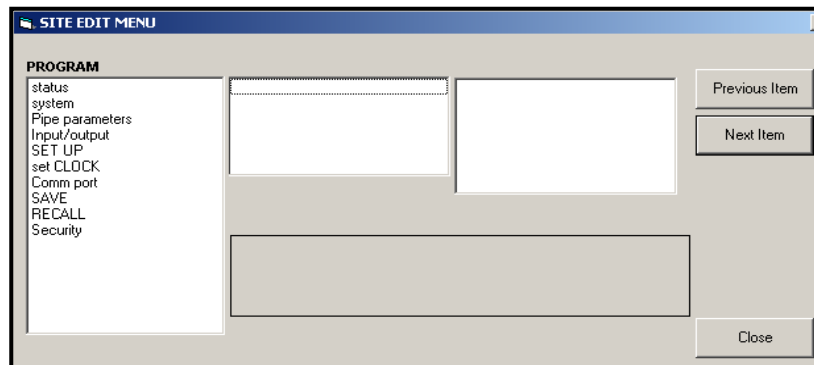

Figure 37: *Site Edit Menu* Window
5. To open a particular menu, double-click on that menu on the tree. For example, if you double-click on the Site Edit Menu, a window opens similar to *Figure 37* below.